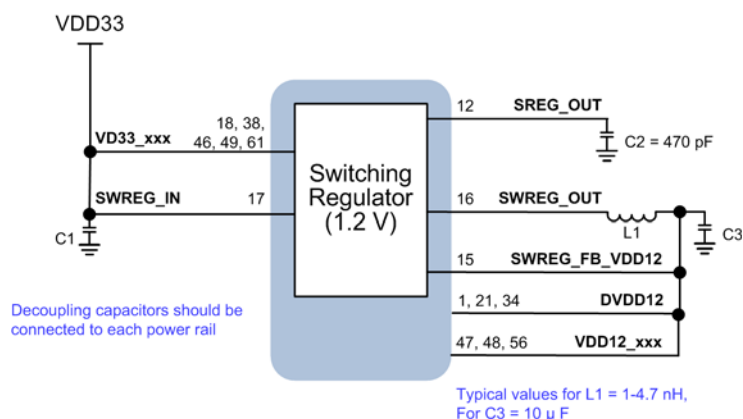

Figure 3-1 1.2 V Switching Power Supply Regulated by the QCA4004
1. DVDD12 and SWREG_FB are connected through an external LC filter to the SWREG_OUT pin. See Figure 3-1.
1. DVDD12 and SWREG_FB_VDD12 are connected through an external LC filter to the SWREG_OUT pin. See Figure 3-1.
Figure 3-1 depicts the switching 1.2 V switching power supply regulated by the QCA4004. Refer to the reference design schematics for details.